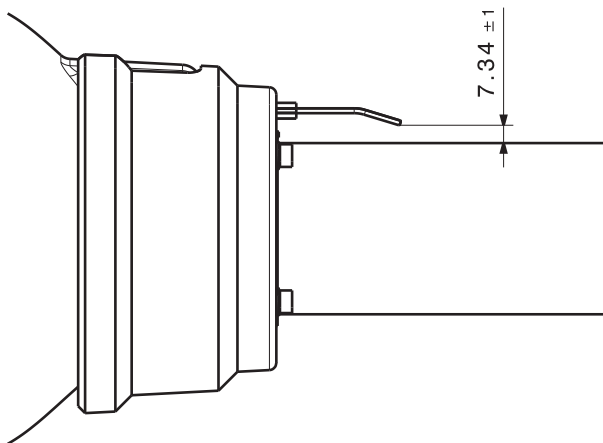

Fig. 504 Distance of the ignition electrodes to the flame pipe
2. Check distance of the electrode tips to the flame pipe (see Fig. 504).